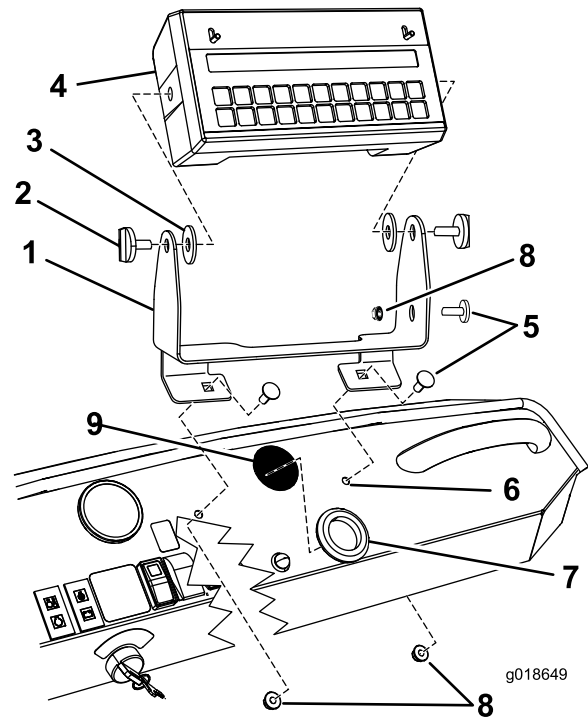

Figure 2
1. Install the mounting bracket to the dashboard and secure it with 2 carriage bolts (5/16 x 3/4 inch) and 2 locknuts (5/16 inch) as shown in Figure 2.
- Assemble the computer console to the mounting bracket with 2 hand knobs (Figure 2).